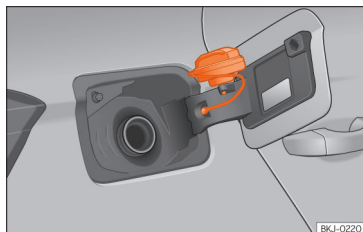

Fig. 146 Fuel tank flap with tank cap attached.
- Place it in the space on the hinge of the open flap >>> **Fig. 146**.